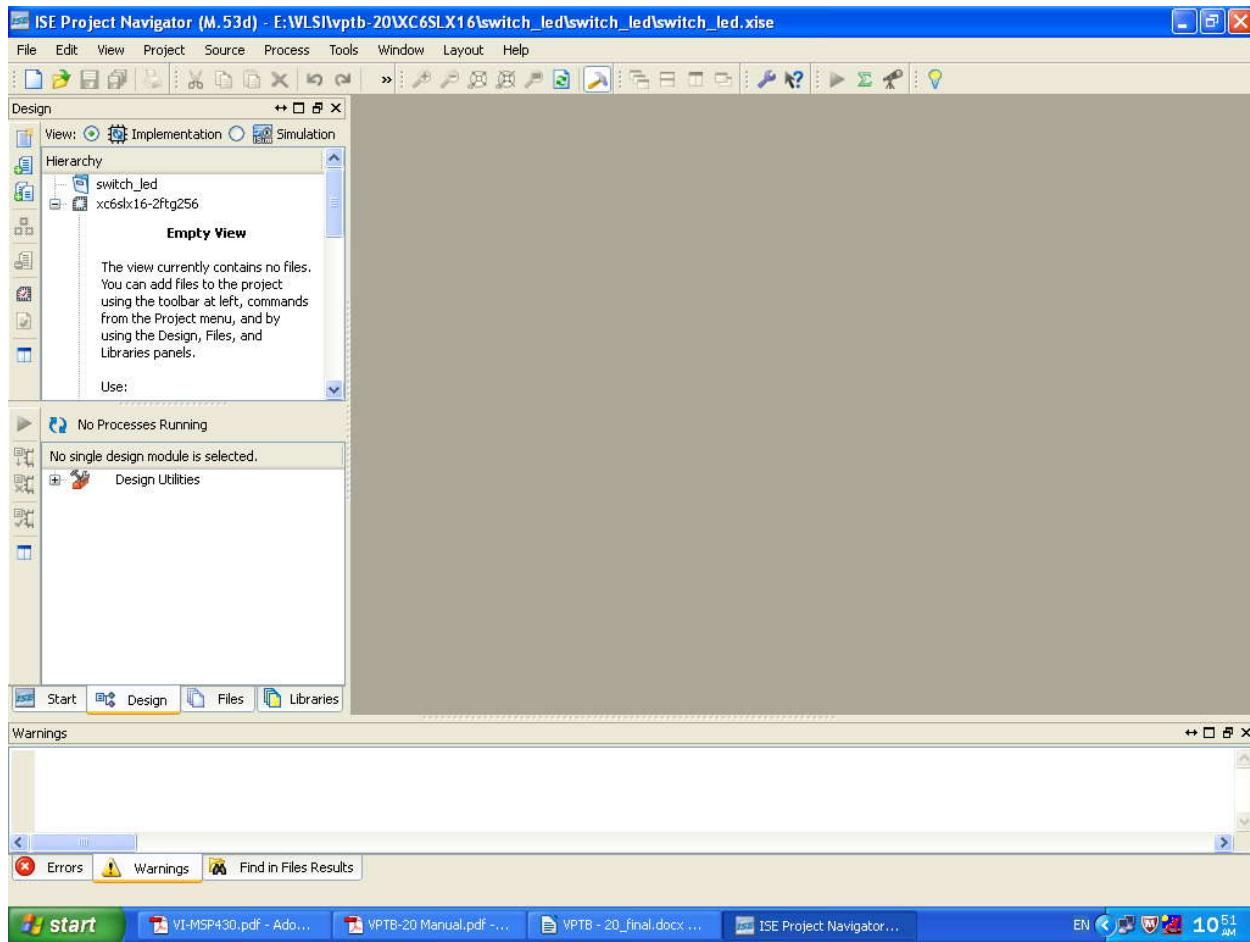
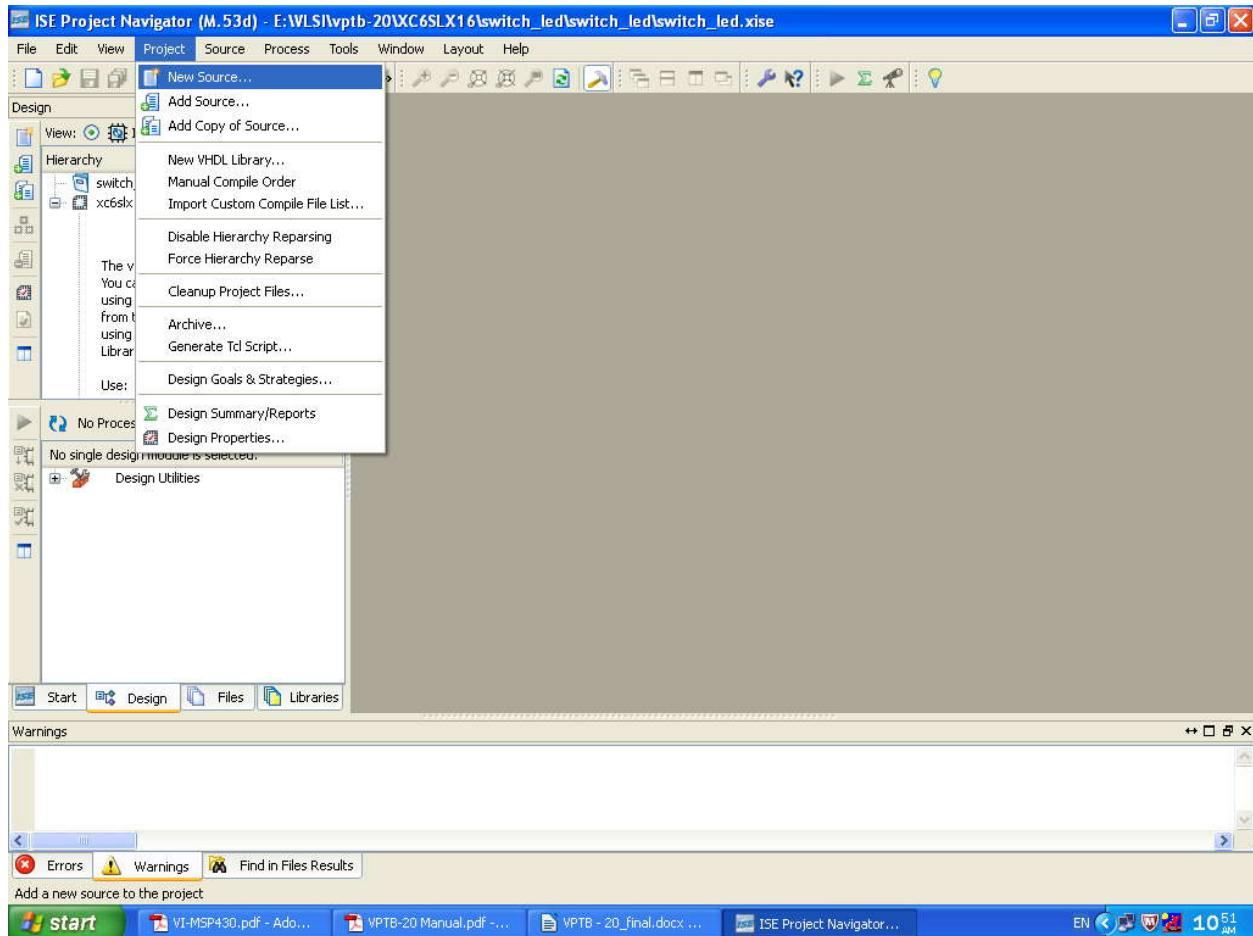
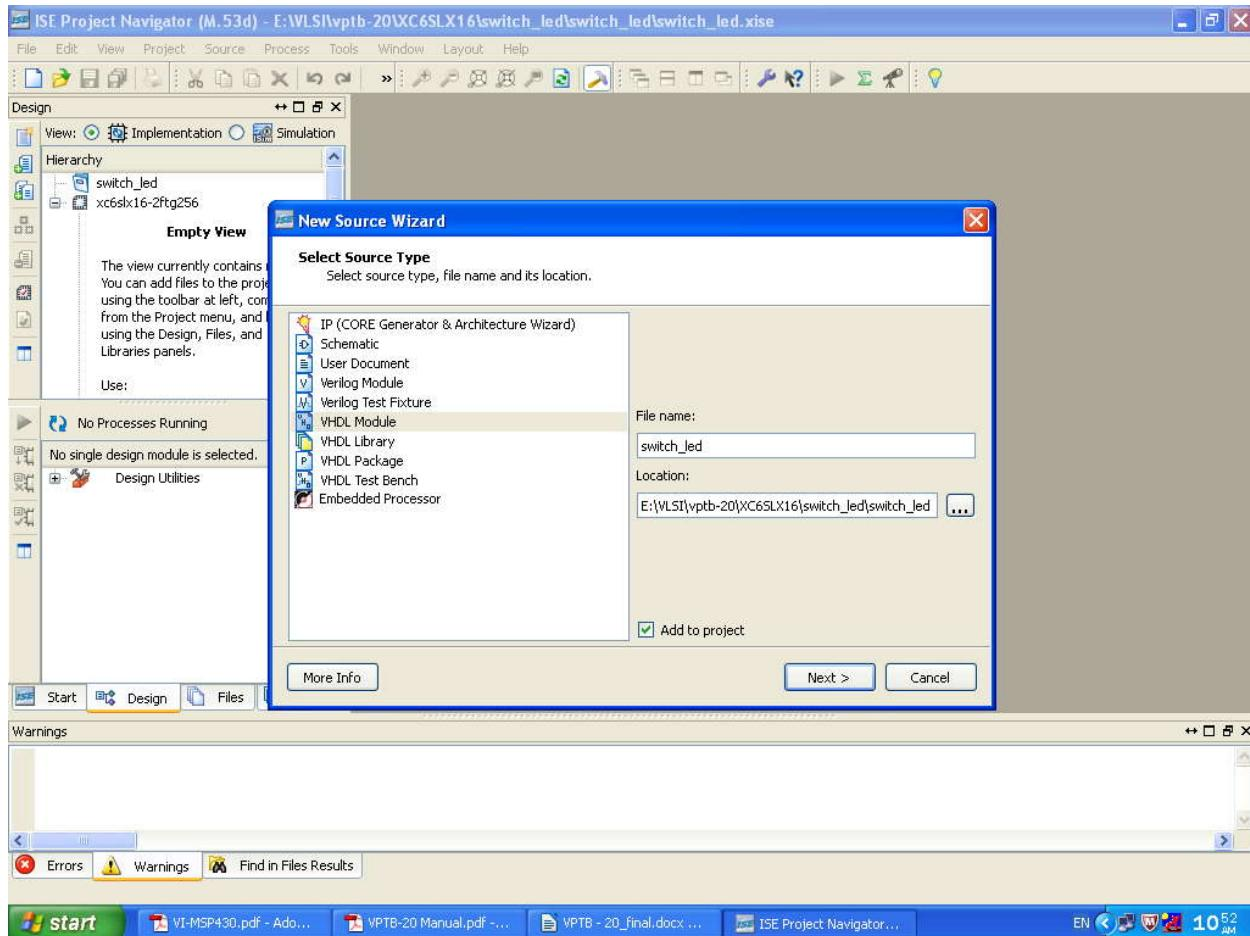

Figure-8
Figure-9
Figure-11
5. A Window given in **Figure-8** will appear. Select **Project → New source**, a window given in **Figure-9,10** will appear. Then select **VHDL module**, and specify the file name in appropriate field(refer **Figure-11**). Click **Next**, then if you want you can give inputs & outputs in the appropriate positions as then in the **Figure - 12**. You can also skip these information by simply clicking **Next** button and click **Finish** (refer **Figure - 13**).